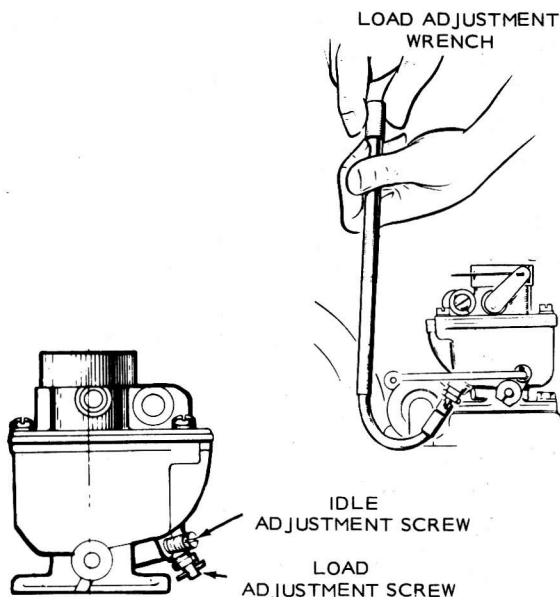

FIGURE 31. CARBURETOR ADJUSTMENTS
2. Turn the load adjustment screw clockwise (Figure 31) until engine speed drops. Then turn screw counterclockwise until engine speed returns to normal.